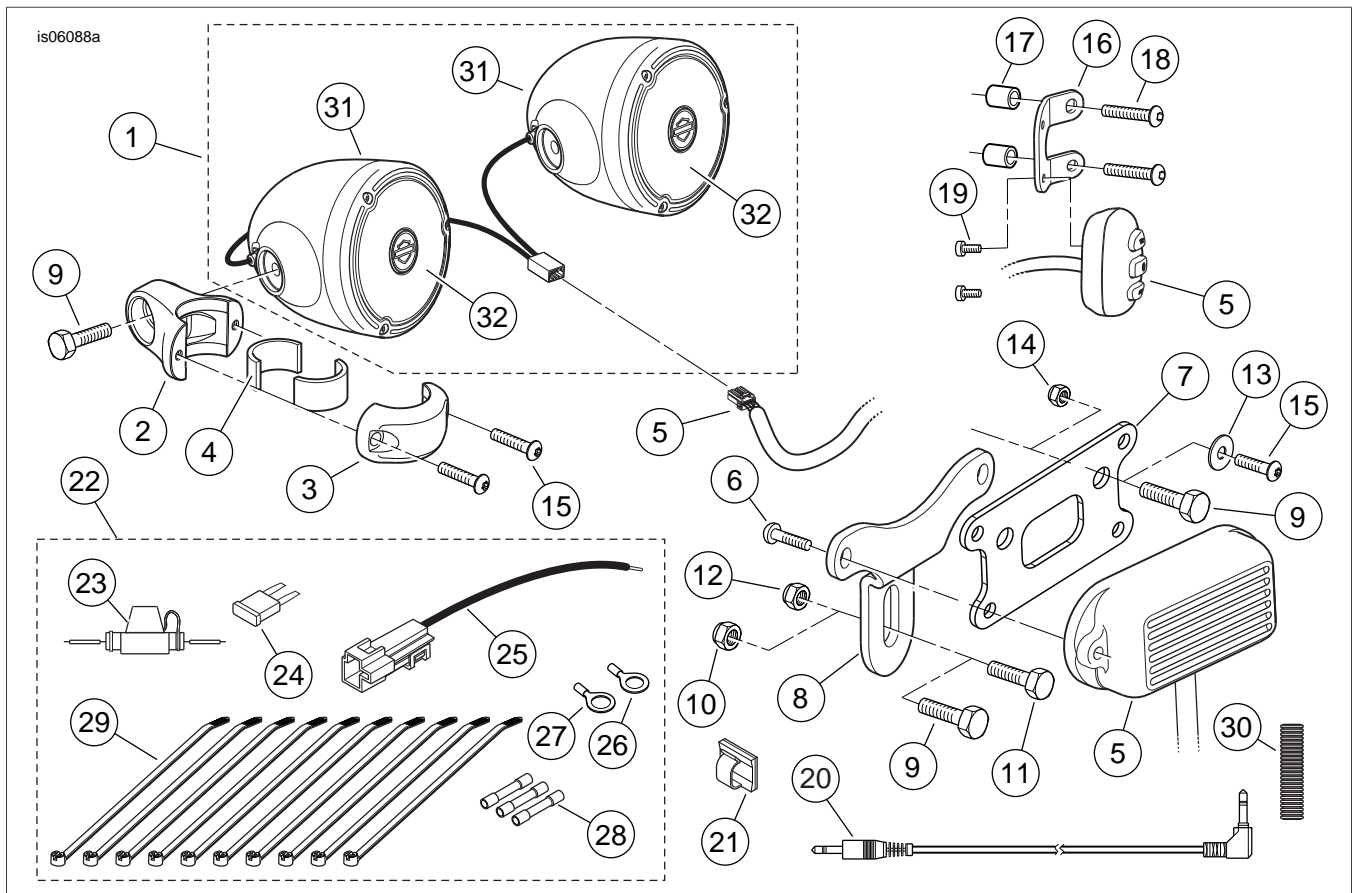

Figure 7. Service Parts, Handlebar-Mounted Speaker and Amplifier Kits
2. See Figure 7. Get the electrical hardware pack (22) from **THIS** kit.
3. Select the in-line fuse holder (23) and one blue sealed splice connector (28) from the hardware pack.
13. See Figure 7. Select a ring terminal from the electrical hardware pack.
- **Dyna Wide Glide models:** use the 5/16 inch (7.9 mm) ID terminal (27).
- **All models EXCEPT Dyna Wide Glide:** use the 1/4 inch (6.4 mm) ID terminal (26).
5. See Figure 7. The 3.5 mm connector from the hand control can be secured to the handlebar with cable straps or secured to the upper triple clamp or nacelle with the adhesive-backed clip (21) from the kit. If using the clip: